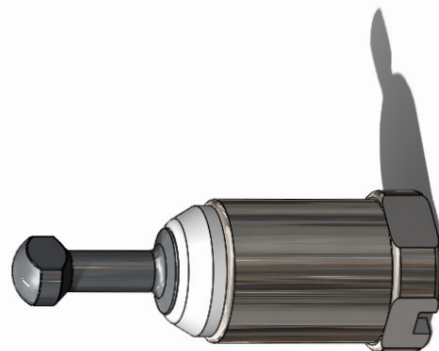

Figure 1: Plug Sub-Assembly
3. Refer to assembly with bill of materials for basic regulator and Figure 1 for trim subassembly.